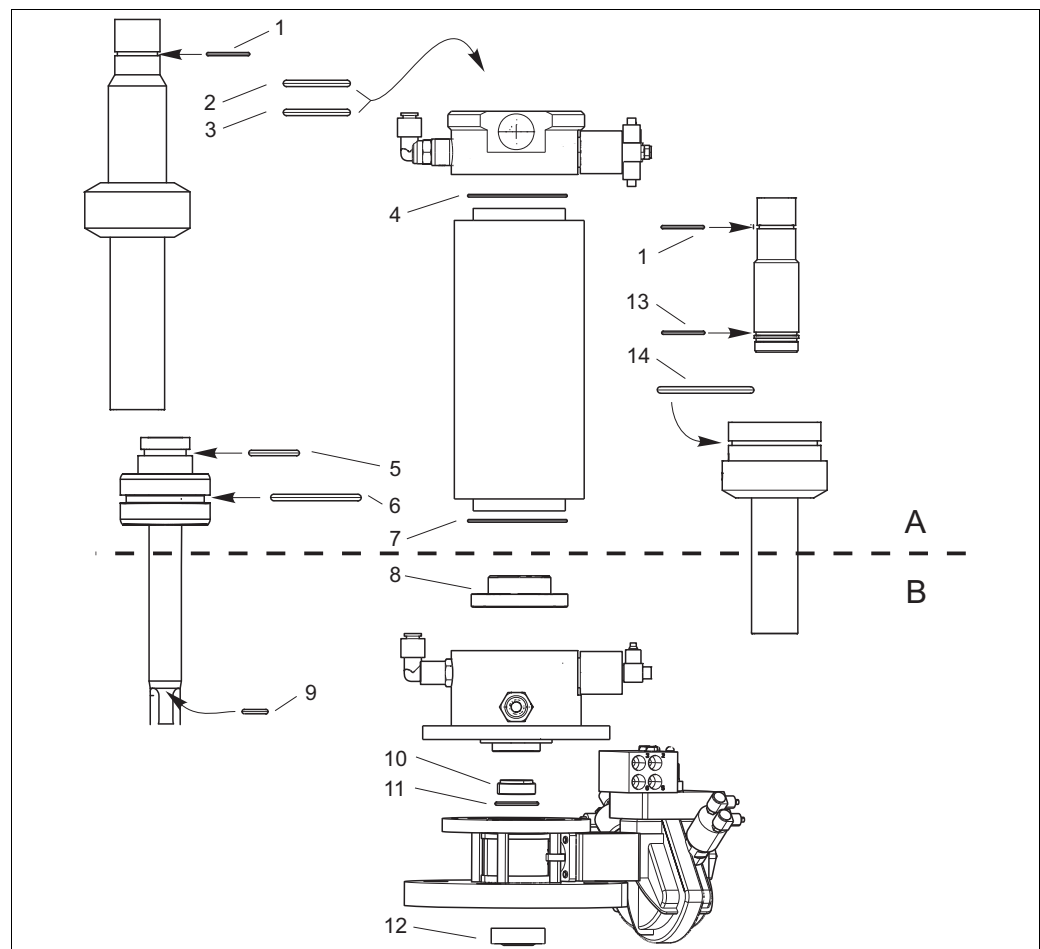

Fig. 39: Position of the seals
2. Replace the seals as shown in Fig. 39.